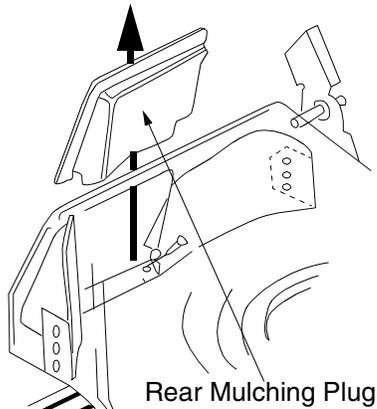

Figure 12
- If your mower is equipped with a mulching plug, and it is in place on the mower, lift the rear discharge door and remove the rear mulching baffle from the mower. See Figure 12.
- Insert the mulch plug. See Figure 12.